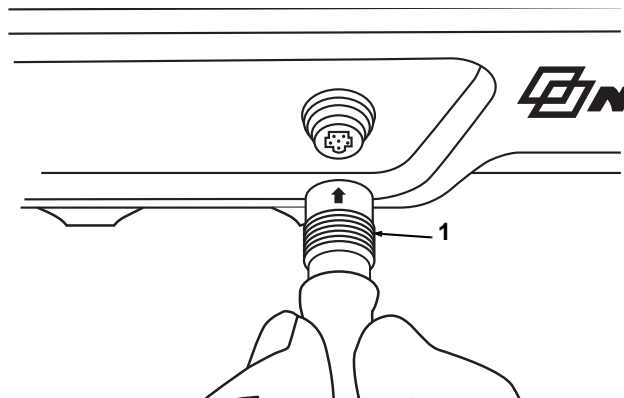

Figure 8. Connect Hub or Signal Processor to Monitor
- a. Align the arrow on the hub cable connector with the small triangle on the monitor connector port (figure 8).